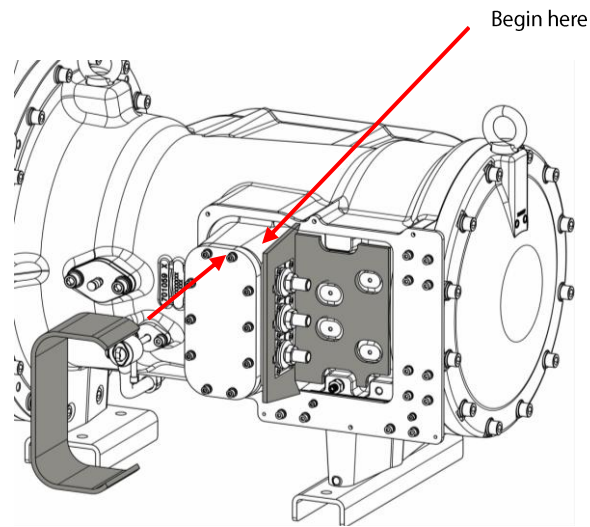

Figure 4 – Insulation Around Tower
- Carefully apply the insulation around the compressor tower. Begin on the location as shown in Figure 4 – Insulation Around Tower. Press firmly along the entire section of insulation to ensure there are no gaps between the insulation and the compressor tower.